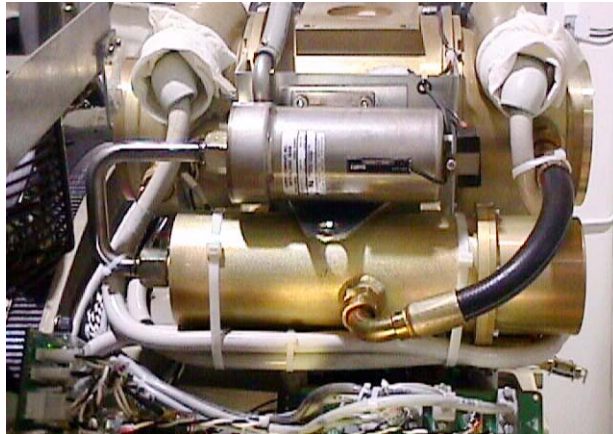

Figure 37 - HV Cables Properly Routed and Secured
- 13.) Be sure to route the HV cable as shown in Figure 37.
17.) Secure HV Cables using Large Ty-Raps, as shown in Figure 37.
- 22.) Install the right gantry front cover bracket. Reference Figure 37, on page 35.